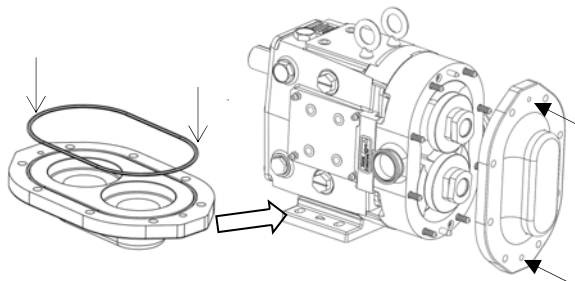

**Figure 62: Installing Rotors and Tightening Jam Nuts**
2) Install rotor onto either shaft by aligning the large spline tooth on the shaft with the large spline groove on the rotor. Secure the rotor in the body with the jam nuts. Place one nut on at a time, tightening them down using the supplied wrench and a non-metallic wedge to hold the rotor in place (Figure 62). See Table 7 for required torque values. Repeat with the second rotor.